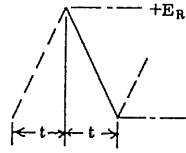

Fig. 4-4
When the constant current that is charging capacitor C is expressed as I, and the voltage comparator is set at -E and +E, and time interval t from +E to -E at the output of integrator is set as shown in Fig. 4-4, the following formula (1) can be obtained
Since oscillation frequency f is  $t/2$  as shown in Fig. 4-4, formula (1) is expressed as follows;